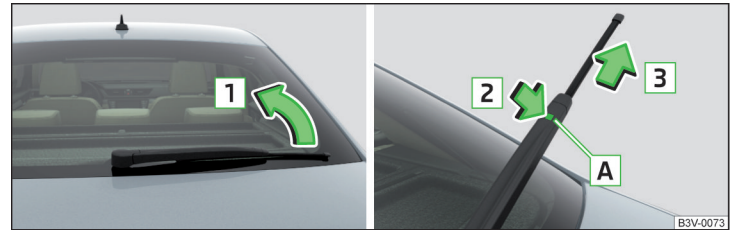

Fig. 354 Replace the rear window wiper blade
- › Lift the wiper arm from the window in the direction of arrow **1** » Fig. 354.